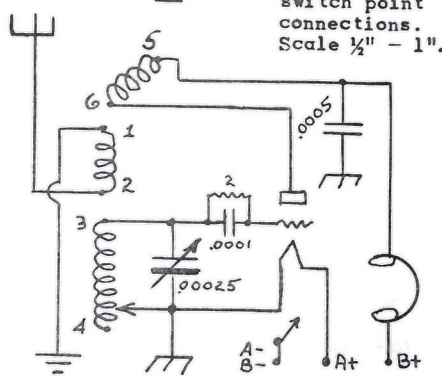

Fig. 5. Broadcast band with the rotor controlling degree of regeneration.
**Fig. 5. Broadcast band.** The old reliable circuit. Instead of an expensive cond. for regeneration - the rotor is used. This circuit is selective enough for most conditions and locations.